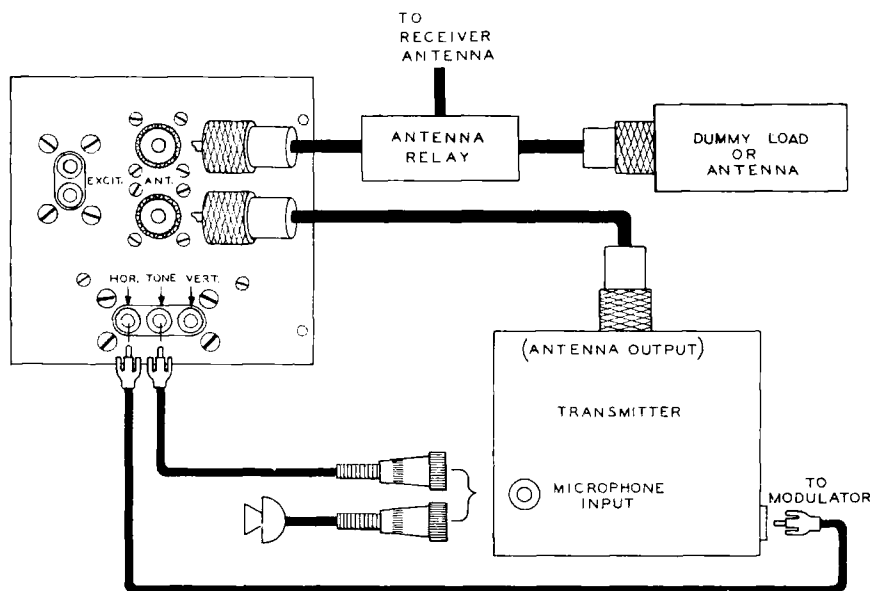

Figure 4
AF TRAPEZOID PATTERNS (FIGURE 4)
2. Connect the Scope to the transceiver as shown in Figure 4 on Page 45. Also see Figure 7A which is a schematic diagram of a typical CB Transceiver output stage.